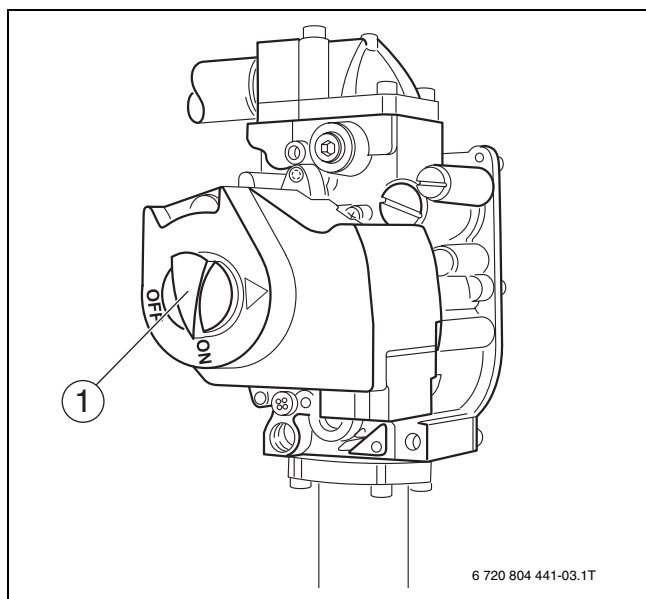

Fig. 3 Gas valve
- ▶ Never use excessive force, when adjusting the gas control knob (→ figure 3).